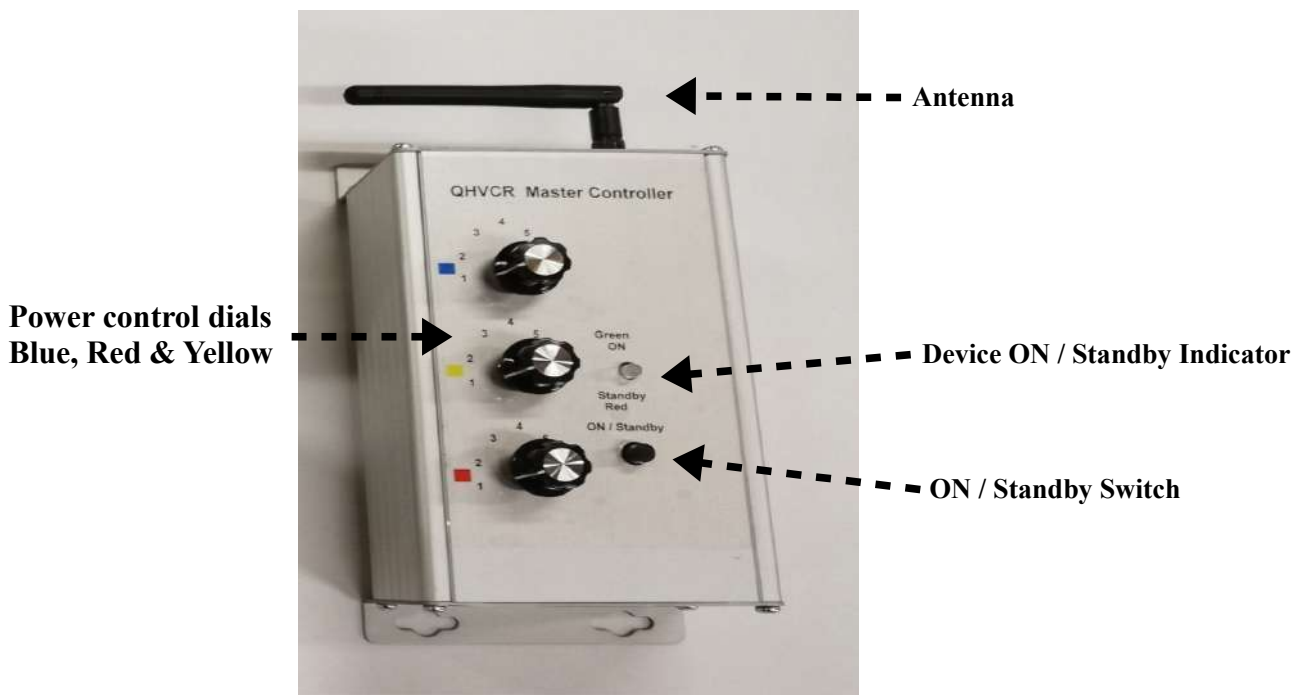

Fig 2
- 2) Turn ON the QHVCR unit by pressing the ON/Standby button on the front panel. The Led indicator will flash orange – green – orange – green and remain Green to indicate that the unit is ready see fig 2.
- 3) The QHCxxMR unit is preset as a Blue zone (1). Turn the Blue control dial to position **2**. The heaters connected to the QHCxxMR units will come ON at the minimum setting 33%. Continue to turn the Blue control dial through position **3** to **5** until you reach the desired setting. Settings are **1** = 0%, **2** = 33%, **3** = 50%, **4** = 66% & **5** = 100%.